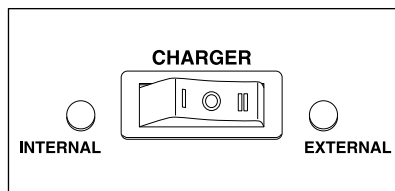

Fig. 5
- If the voltage is above 5V, plug the power cord of the Rescue 4000/4050 into a 120V AC outlet and set the rocker switch on the front of the unit to EXTERNAL. (Fig. 5)